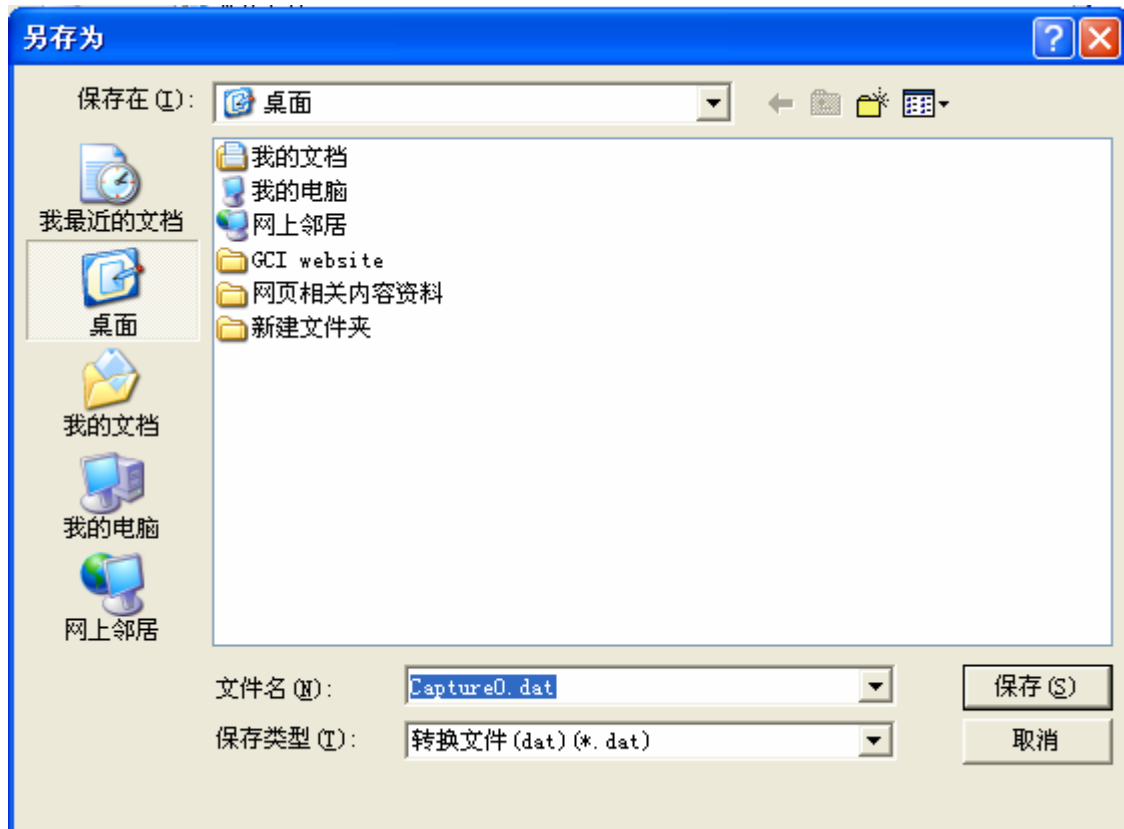

Figure 9: Save target file
3. Press the second “browse” in the SaveFile, find a route to save the target file, see Figure 9.